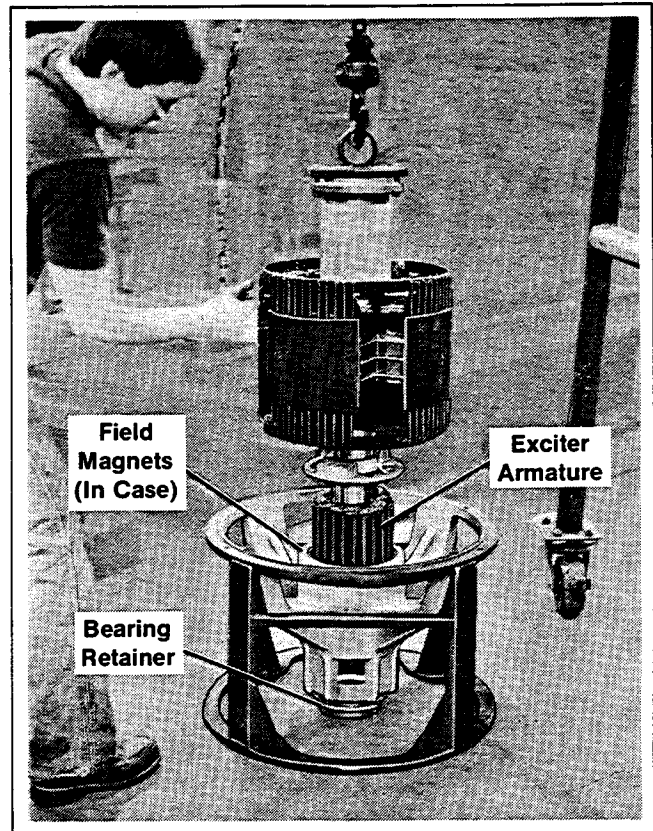

Figure 5-7. Removing Rotor
18. Fasten lifting eye and hoist hook to rotor flange. If so equipped, remove nuts and bolts holding bearing retainers to end bracket. Hoist rotor to remove. Take care not to damage exciter armature or exciter field magnets. See Figure 5-7.